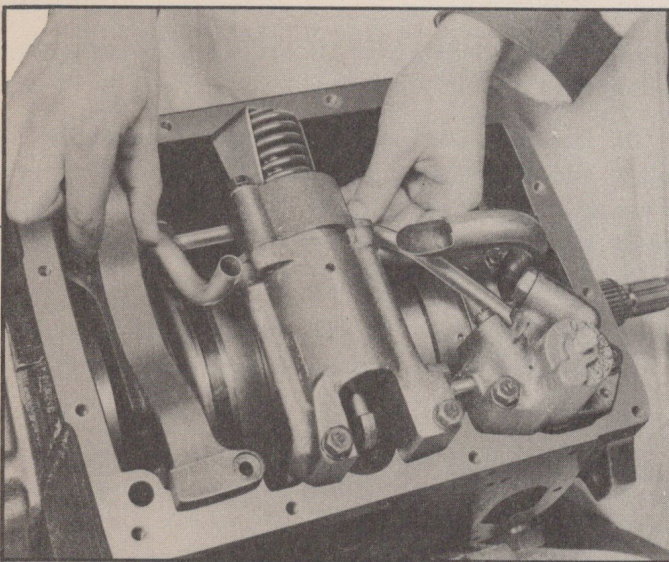

Fig. 96—Installing Rear Pump Discharge Pipe Into Rear Pump
3. Insert proper end of rear pump discharge pipe into rear pump as shown in Fig. 96 (a small hole is drilled one inch from the front pump end of the pipe). With the pipe in the rear pump as far as it will go turn the pipe so the front end indexes with the hole in the front servo and work the pipe part way out of the rear pump into the front servo.